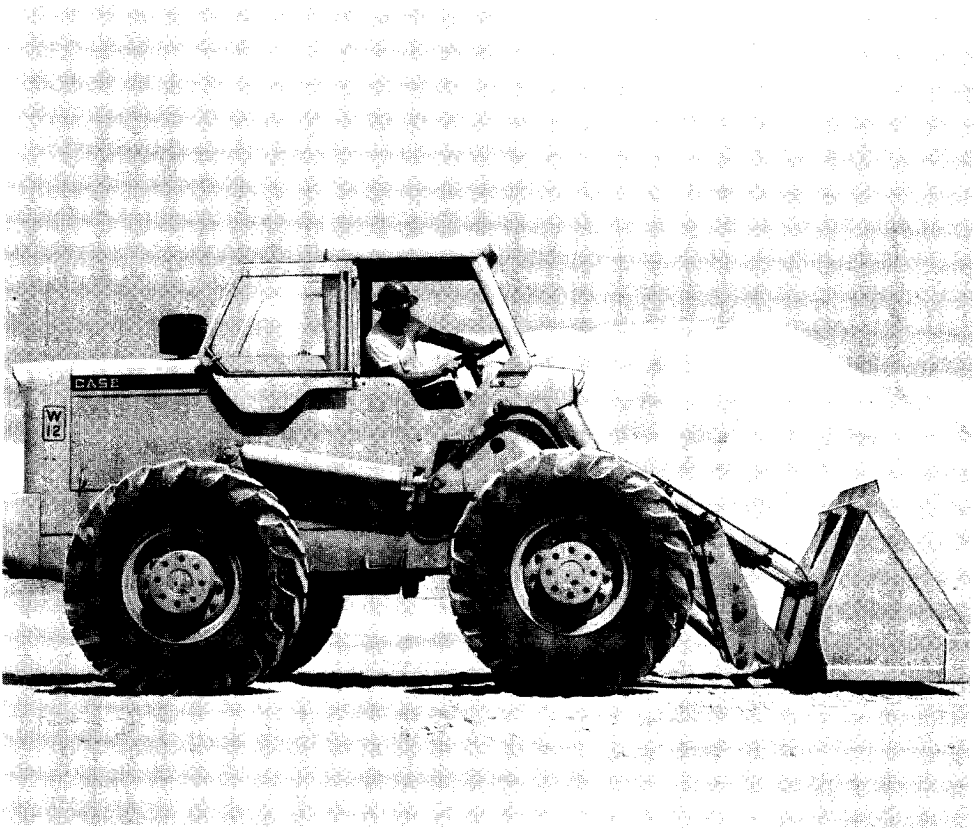

Figure 37
1. To fill the bucket, select a forward speed range to fit the terrain and material conditions, During the approach to the cut or stockpile, use the bucket sight level gauge as a guide and locate the bucket parallel to the ground with the Bucket Tilt Control, then push the Bucket Lift Control forward to lower the bucket to ground level, Figure 37.